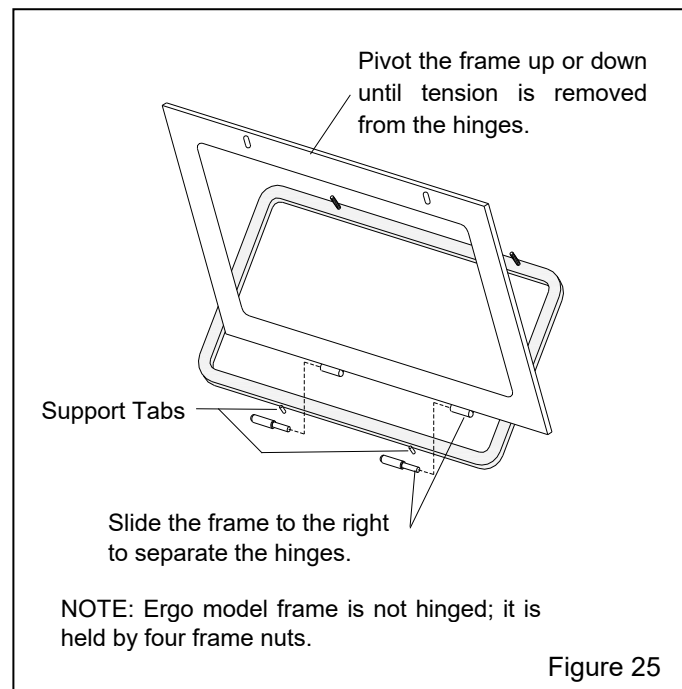

Figure 25
7.6 Window-Frame Removal – Figure 25
7.6.4 To remove, slide the frame to the right. The hinges separate, as shown in Figure 25.